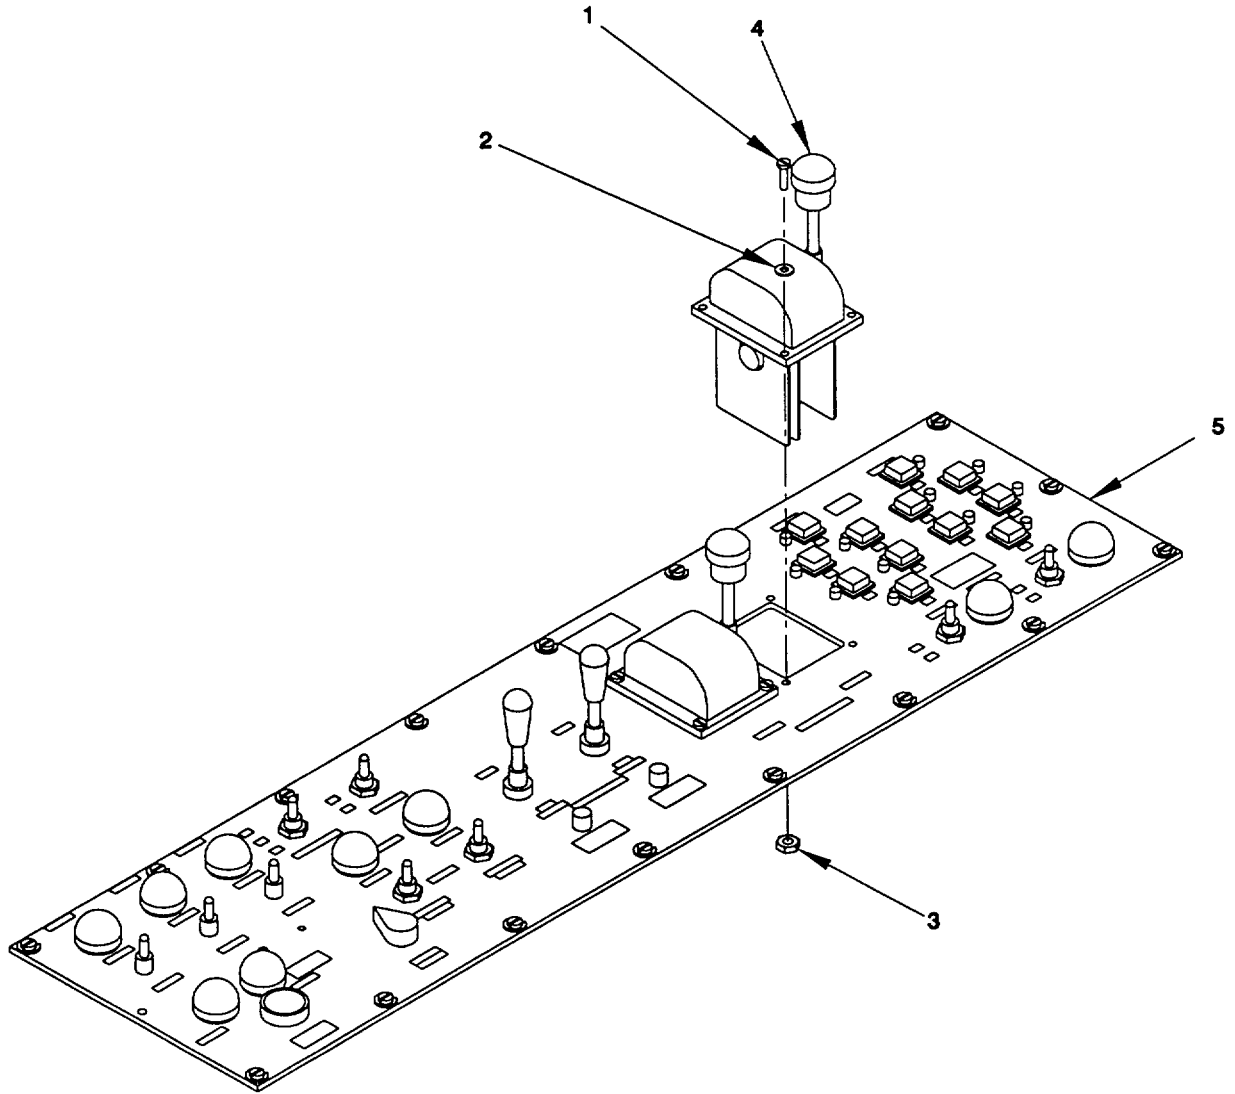

Figure 2-123. Throttle Control, Lower Control Panel "A2", Remove/Install.
a. *Remove.* (figure 2-123)
- (1) Tag and disconnect electrical wiring to throttle control (4). Refer to Appendix G.
- (2) Remove four pan head screws (1), four flat washers (2) and four hex nuts (3) securing throttle control (4) to lower control panel (5). Remove throttle control (4).
b. *Install.* (figure 2-123)
- (1) Position new throttle control (4) on lower control panel (5). Secure throttle control (4) with four pan head screws (1), four flat washers (2) and four hex nuts (3).
- (2) Reconnect electrical wiring to throttle control (4). Refer to Appendix G. Use tie wraps and mounting bases to secure any loose wiring.